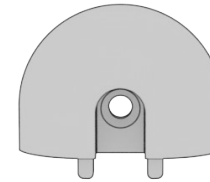

FIG 9
2.4 Attach End Caps: We've supplied **End Caps** to use at your discretion. Simply snap it into place in the orientation shown in **FIG 9** and finish by driving a **#8 Screw** into your wall panel (if applicable).